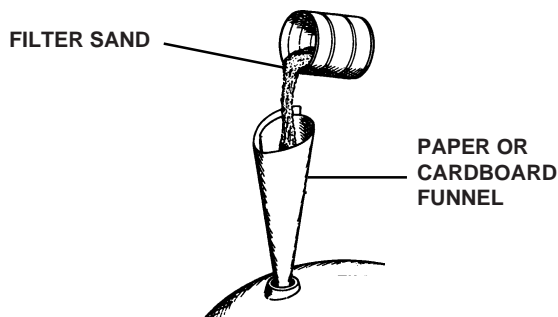

FIG. 4.
Install all bolts (20), washers (21) and nuts (30). Tighten bolts and nuts in a uniform manner opposite each other while working around the tank. Remove top tank plug (17) and O-Ring (18) and set aside. Construct a funnel from heavy paper or lightweight cardboard (See Fig. 4). Place funnel in opening and pour the remaining sand directly into tank. It will be easier to use a small can instead of pouring directly from bag. When all the sand is in the tank, clean sand off plug and O-Ring seat area. Replace tank plug and O-Ring.